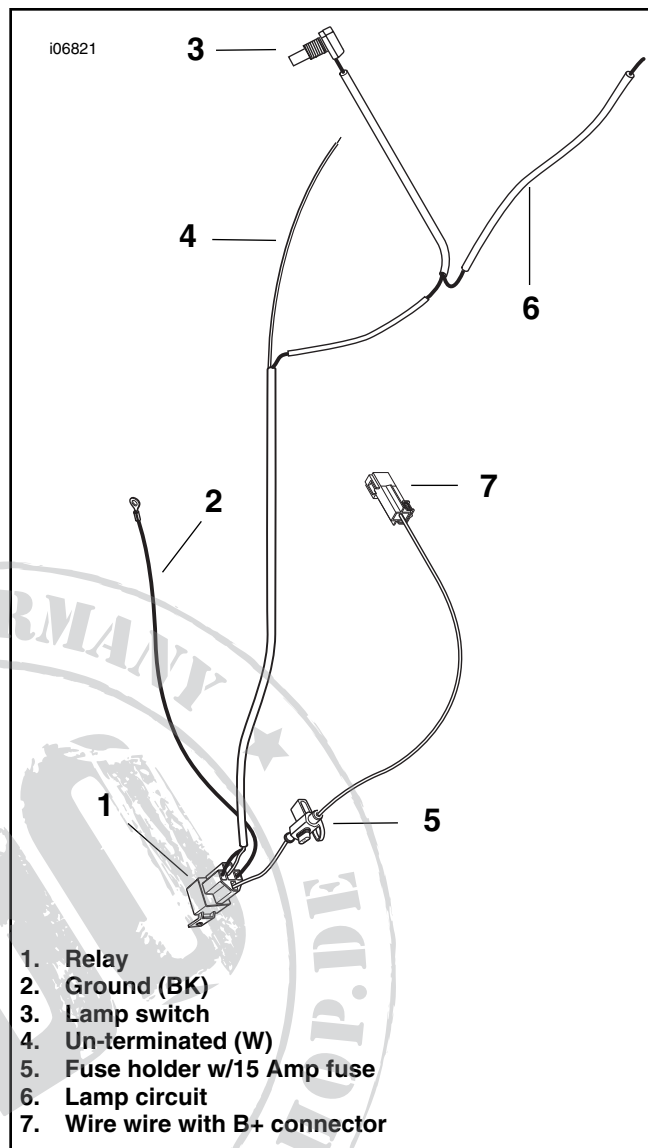

Figure 7. Auxiliary Lamp Wire Harness
1. See Figure 7. Place the relay (1) of the wire harness in the opening of the seat pan.